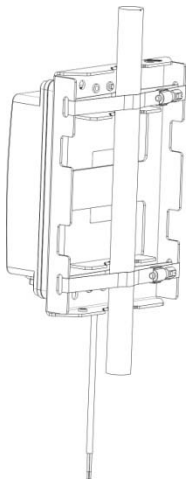

Figure 6
2. Thread two metal worm clamps through the fore-panel holes and fasten them around the pole using bolts (see Figure 6).